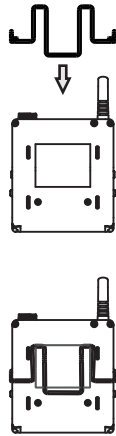
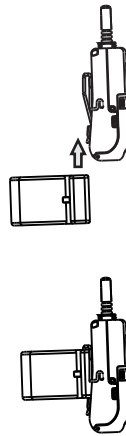

Fig. 11-1
Fig. 11-2
(A) Assemble the beltclip with the transmitter, Fig. 11-1, and install the holder on the beltclip, Fig. 11-2.